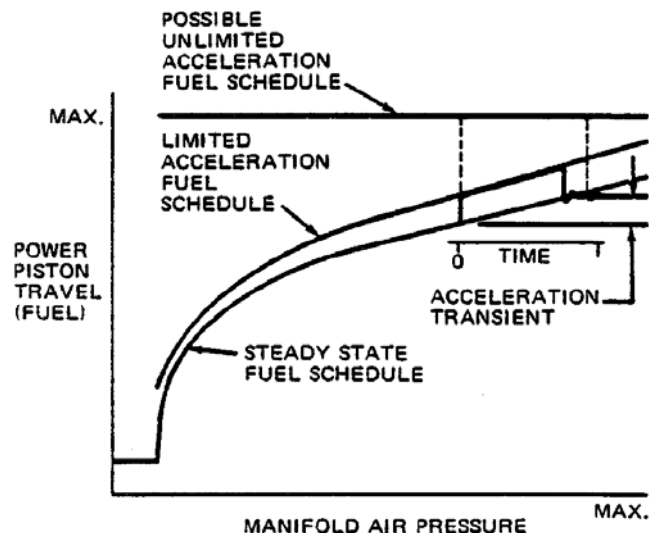

Figure 4-1. Typical Limited Acceleration Fuel Schedule Curve
The fuel limiter functions to restrict the movement of the governor power piston in the increase fuel direction and thus limit engine fuel during accelerations as a function of MAP (an approximation of the weight of air available at any instant). Limiting engine fuel to that which can be burned with the air available at any instant during the acceleration transient ensures more complete combustion of the fuel, reducing smoke to a minimum and improving engine acceleration. The fuel limiter also serves as a protective device to limit engine fuel if the turbo-supercharger fails or other large reduction occurs in the engine air supply. Figure 4-1 illustrates the unlimited, limited, and steady state fuel schedules for a typical engine together with a typical acceleration transient from one steady-state condition to another.
Refer to Figures 4-1 and 4-2 as required when making adjustments to the basic fuel limiter and load control override linkage.
6. Loosen locking screw in eccentric adjustment (see Figure 4-1) and turn eccentric cw until sensor piston (and fuel limit cam) travels to top of its stroke. Zero dial indicator or note indicator reading.